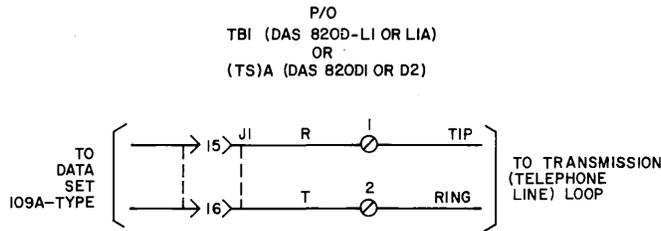

Fig. 8—Telephone Line Connection for Station-to-Hub Operation or Station-to-Station Operation When No Voltage Present on Incoming Transmission Loop
(a) Connect one lead of the loop to terminal 2 (Fig. 8). This lead is not designated as the ring lead of the loop.
(b) Connect the remaining lead of the loop to terminal 1 (Fig. 8). This lead is now designated as the tip lead of the loop.
4.08 If the dc resistance of the incoming transmission loop is between 1800 and 2500 ohms [see 4.06(c)] and the maximum capacitance of the loop does not exceed 1 μ F, the loop is acceptable. Connect the loop leads (tip and ring) to TB1 [(TS)A of DAS 820D1 or D2] of DAS 820D-L1 or L1A as shown in Fig. 8 and complete the following steps.
4.09 If the dc resistance of the incoming transmission loop is below 1800 ohms, connect the loop leads (tip and ring) to TB1 [(TS)A of DAS 820D1 or D2] of DAS 820D-L1 or L1A as shown in Fig. 8, and perform the following procedures.